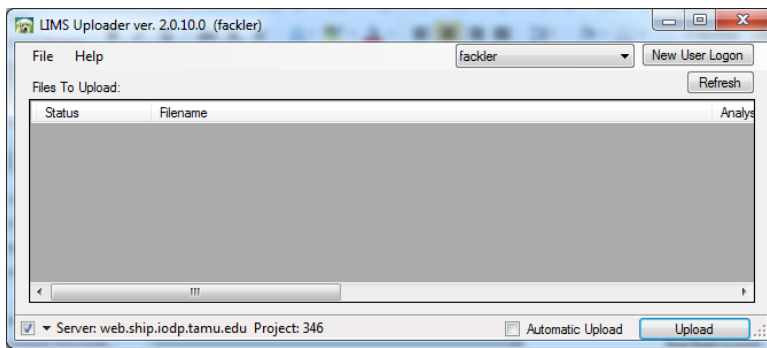

Figure 10. LIMS Uploader Window
2. The **LIMS Uploader** window will open (*Figure 10*).